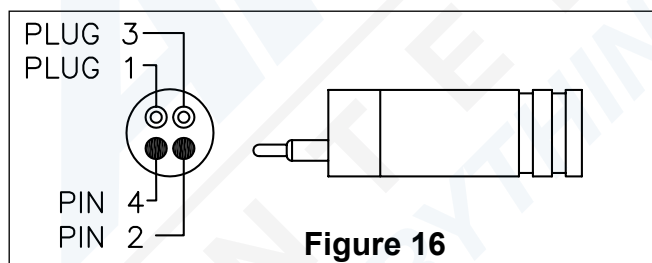
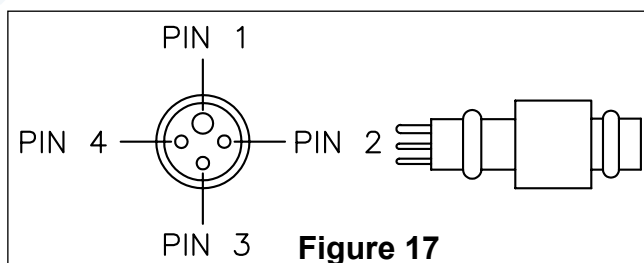

Figure 16
Figure 17
2. Hi-Use pin configuration (Fig. 16) and Marsh Marine pin configuration (Fig. 17).